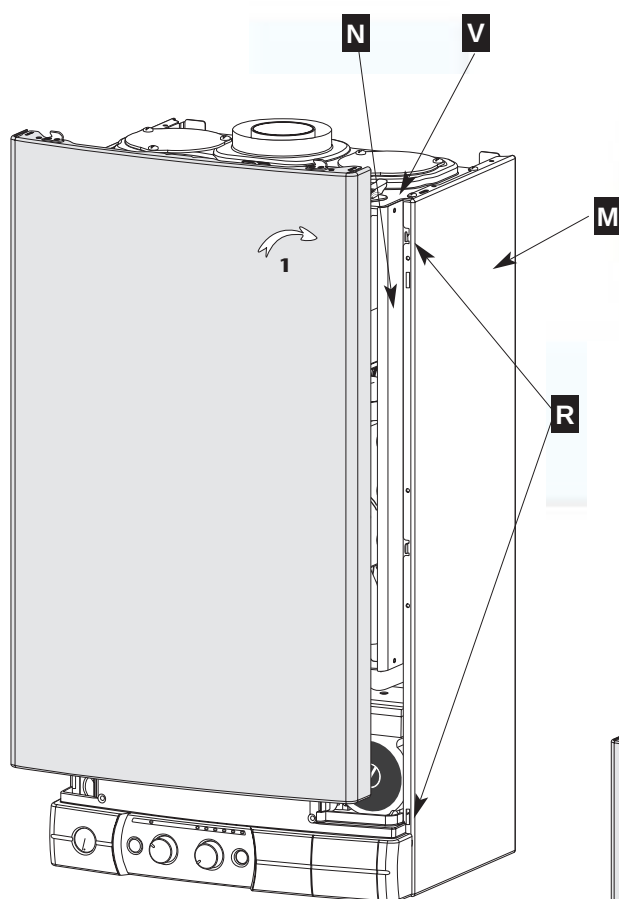

Fig. 14
- offer the casing up (fig. 14)